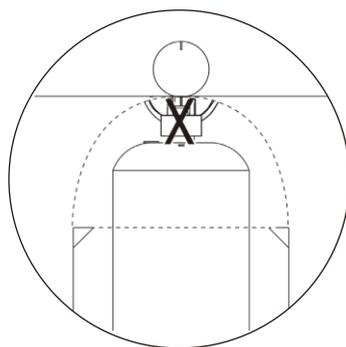

Figure 6
4. Please refer to diagram for proper installation (see Figure 6).